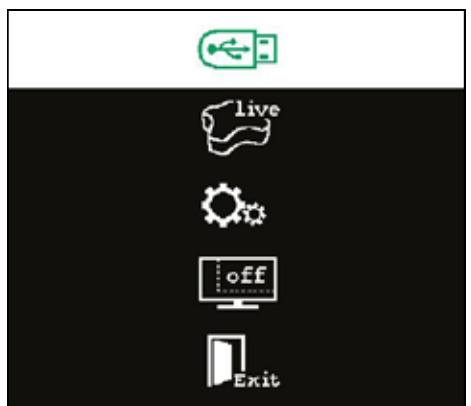
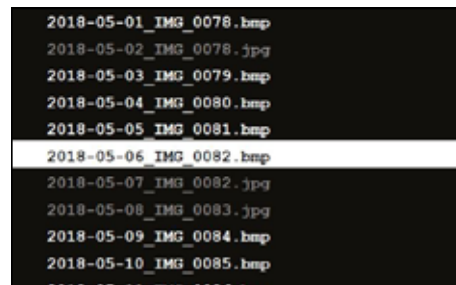

Fig. 20
Fig. 21
- ⇒ Select the USB flash drive in the split screen main menu (Fig. 20) or the split screen sub-menu (Fig. 21).
- ⇒ Select the screenshot item in the split screen sub-menu (Fig. 21).